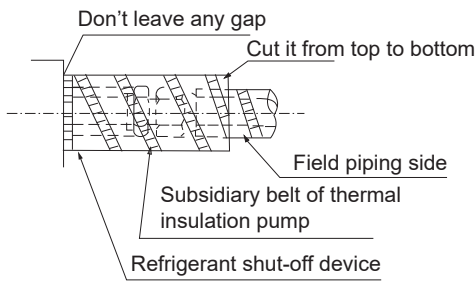

Fig.6-5
3. To prevent condensation, do not leave any gaps between the insulation material and the unit body (See Fig.6-5).